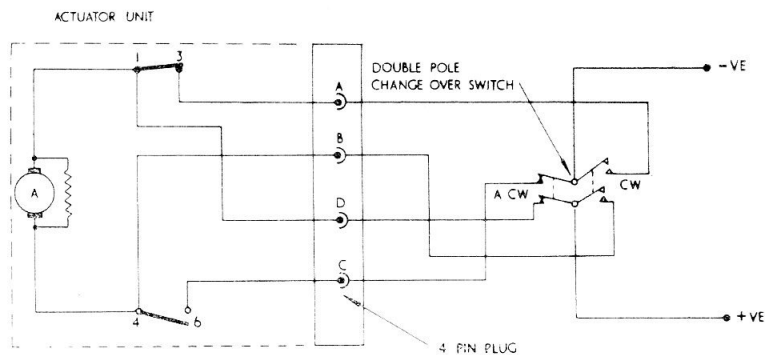

Fig. 1. Circuit diagram
3. Electrical connections are made by a four-pole Plessey plug, UK-AN(ET)-5000-14S-2P, and connected externally as shown in the circuit diagram (fig. 1).